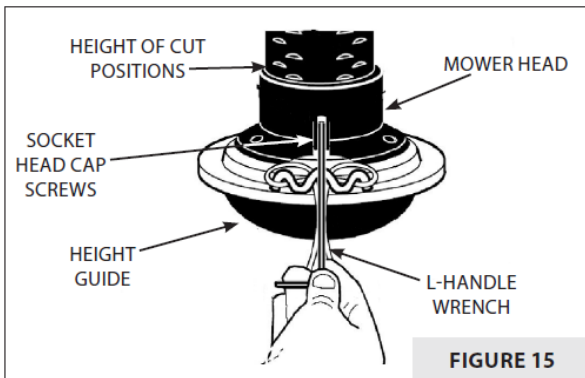

FIGURE 15
The height of the cut can be set from 1-1/2 inches to three (3) inches. The recommended cutting height for the average yard is two (2) inches. **SEE FIGURE 15.**